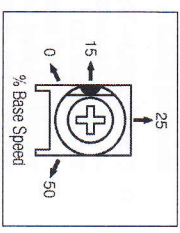

FIGURE 27 – JOG TRIMPOT RANGE
E. Jog Speed (JOG) – Sets "jog" speed of the motor. The JOG trimpot is factory set for 15% of motor base speed, as shown in Figure 27. For a higher jog setting, rotate the trimpot clockwise. For a lower jog setting, rotate the trimpot counterclockwise.